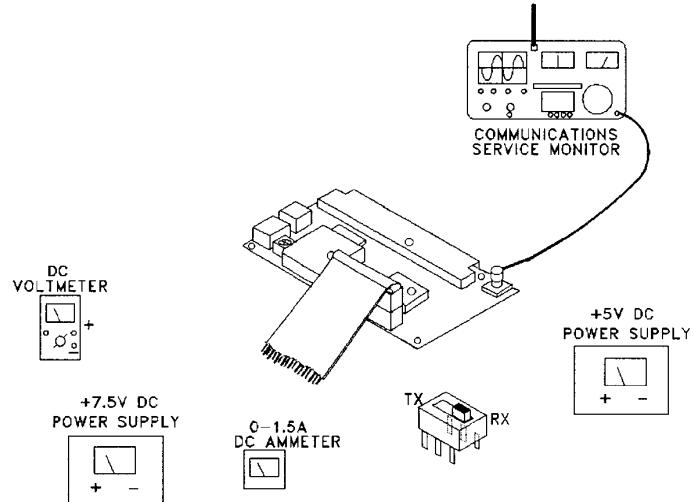

Figure 6-2 RECEIVER TEST SETUP
1. Connect the test setup shown in Figure 6-2. Adjust the power supply for +7.2V DC.